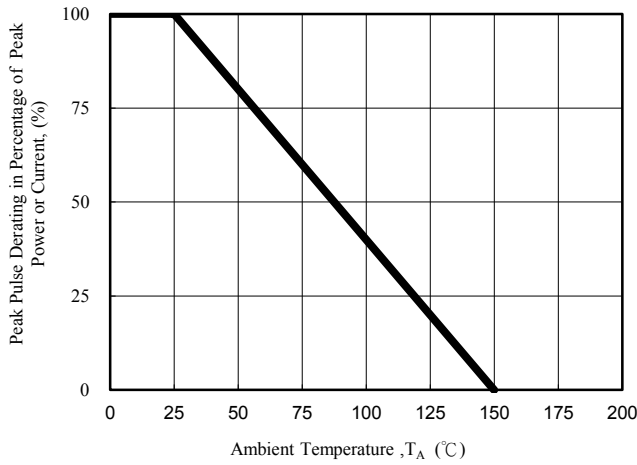
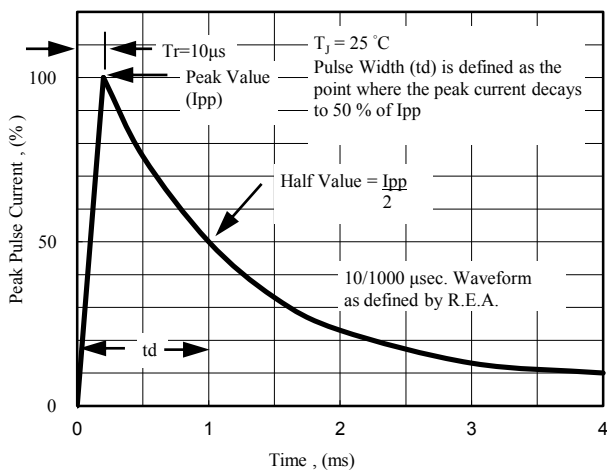

Fig. 1 - Pulse Derating Curve
Fig. 5 - Pulse Waveform
(1)Non-repetitive current pulse per Fig.5 and derated above  $T_A= 25^\circ\text{C}$  per Fig.1